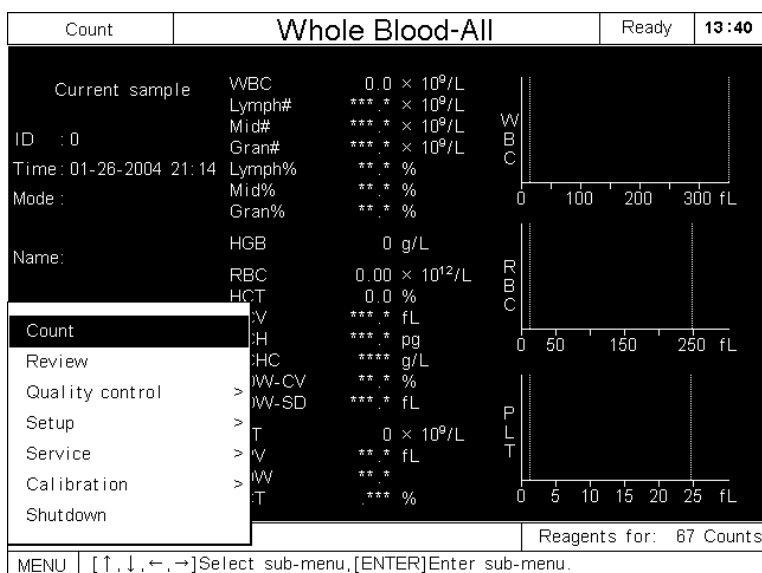

Figure 5-1 Entering count screen
1. Press [MENU] to enter the system menu. Press the appropriate arrow keys to move the cursor to **Count** screen, as Figure 5-1 shows.